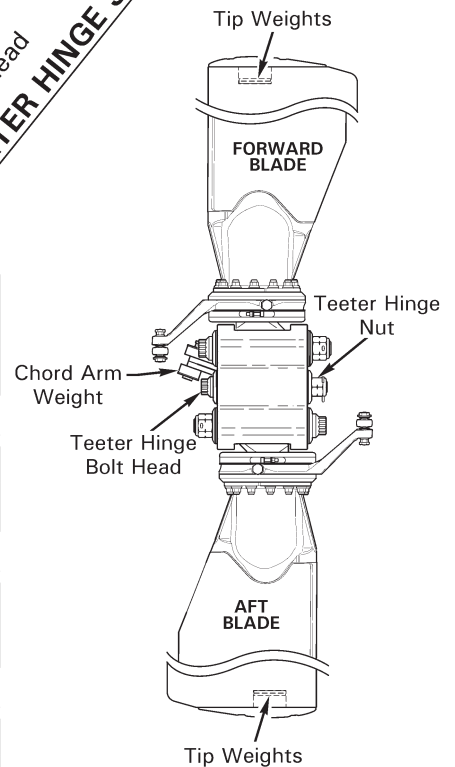
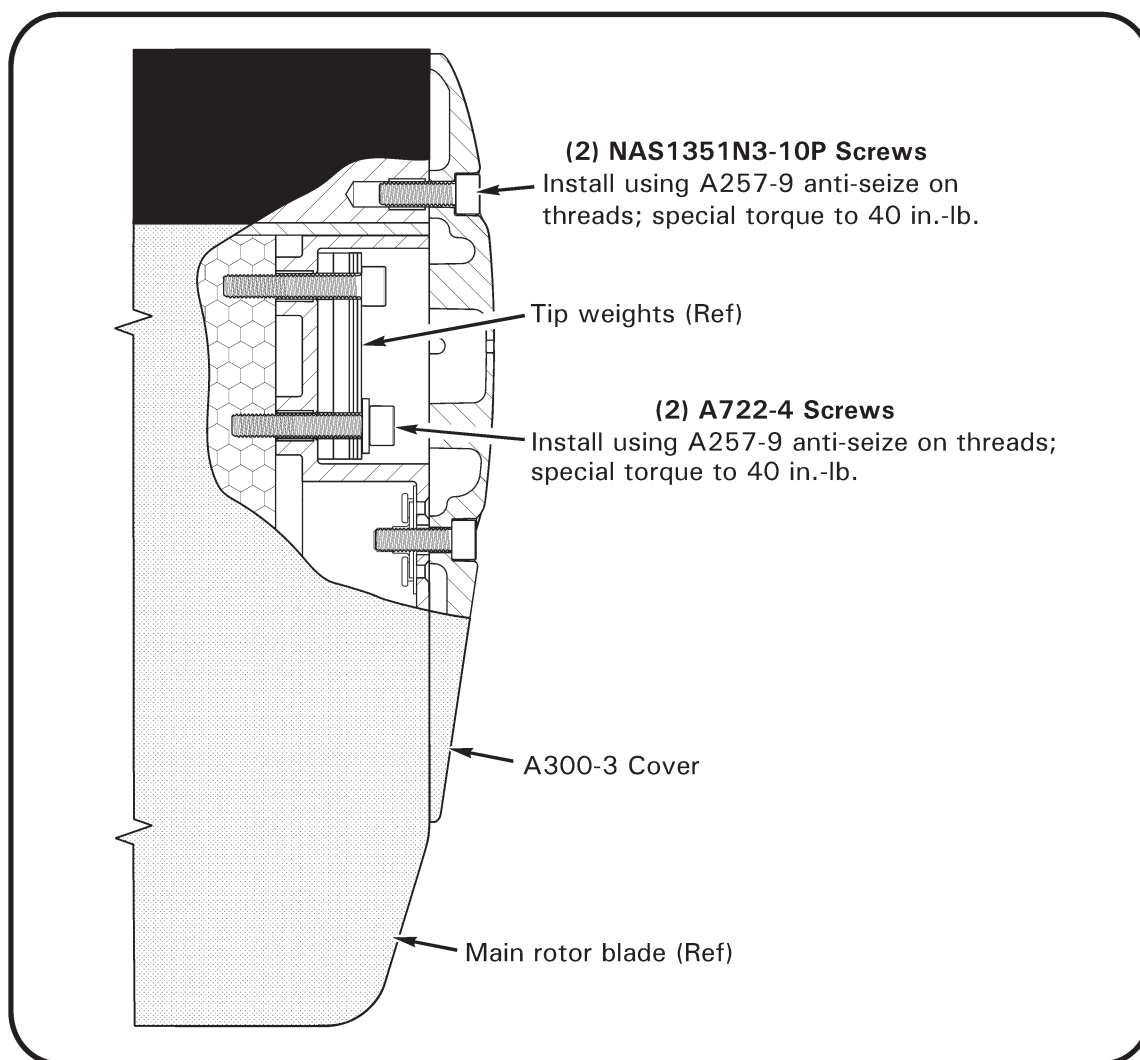

FIGURE 10-10 MAIN ROTOR TRACK AND BALANCE CHART
FIGURE 10-11 MAIN ROTOR BLADE TIP
1. Remove screws securing tip cover to blade. Balance rotor assembly spanwise by adjusting tip weights as required per Figure 10-10. Washers may be trimmed. Refer to Figure 10-11. Apply light coat A257-9 anti-seize to threads and install screws securing tip weights to blade; special torque screws to 40 in.-lb. Apply light coat A257-9 anti-seize to threads and install screws securing tip cover to blade; special torque screws to 40 in.-lb.
3. Balance rotor assembly chordwise by moving (or exchanging) existing teeter hinge shims to other side of bolt (under head or under nut) as required per Figure 10-10. Install teeter hinge bolt per § 26-10.
1. Balance rotor assembly chordwise by adjusting chord arm weights or washers per Figure 10-10. Total weight not to exceed two A255-2 weights (or equivalent).